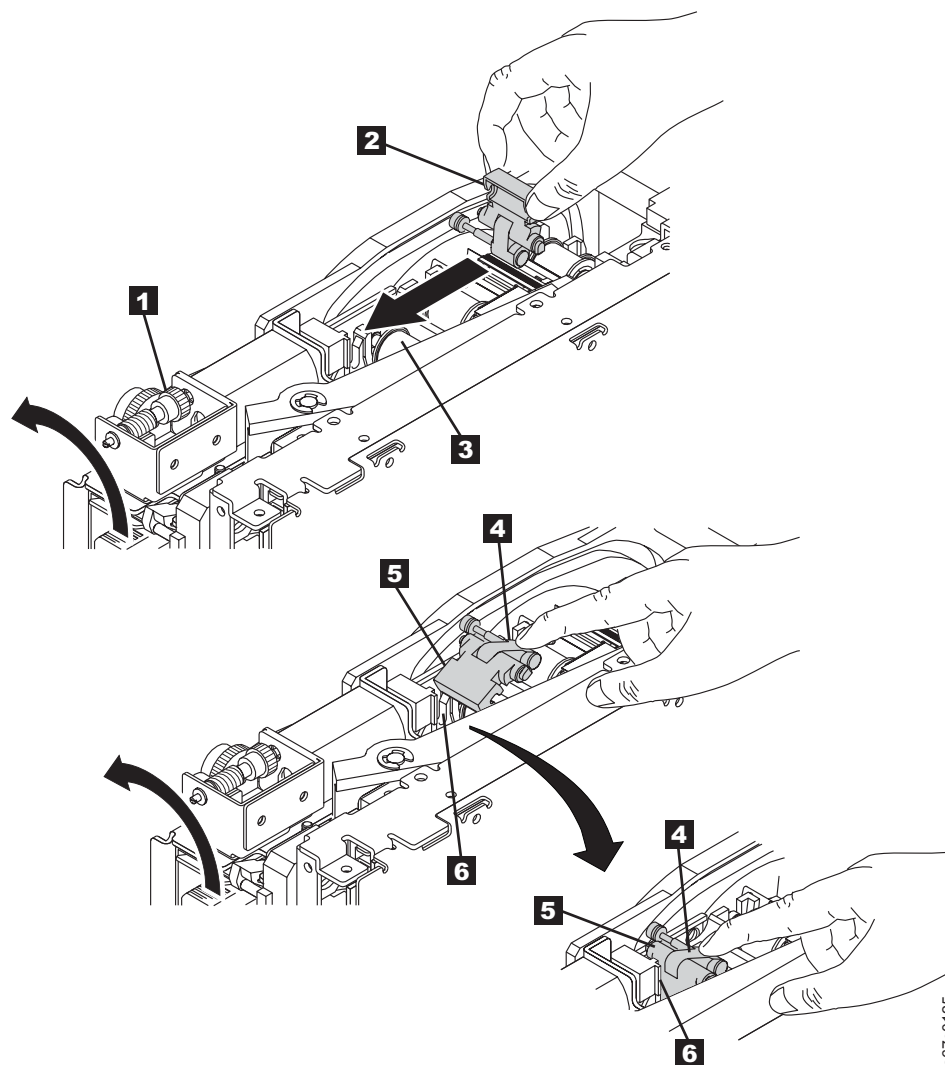

Figure 39. Guiding the leader pin into the tape cartridge
1. Manually rotate the loader motor gear (see **1** in Figure 39 on page 107) in the unload direction until the leader pin block **2** reaches the last roller **3**.